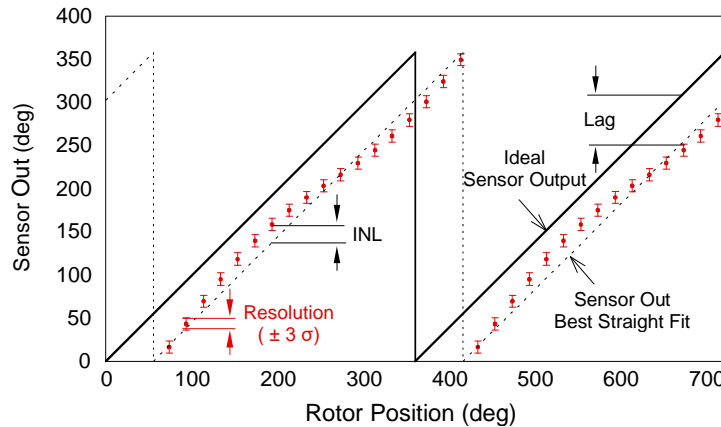

Figure B2: Resolution, INL, Lag
- Integral Nonlinearity (INL)** Maximum deviation between the average sensor output (at a fixed position) and the true mechanical angle (see Figure B2).